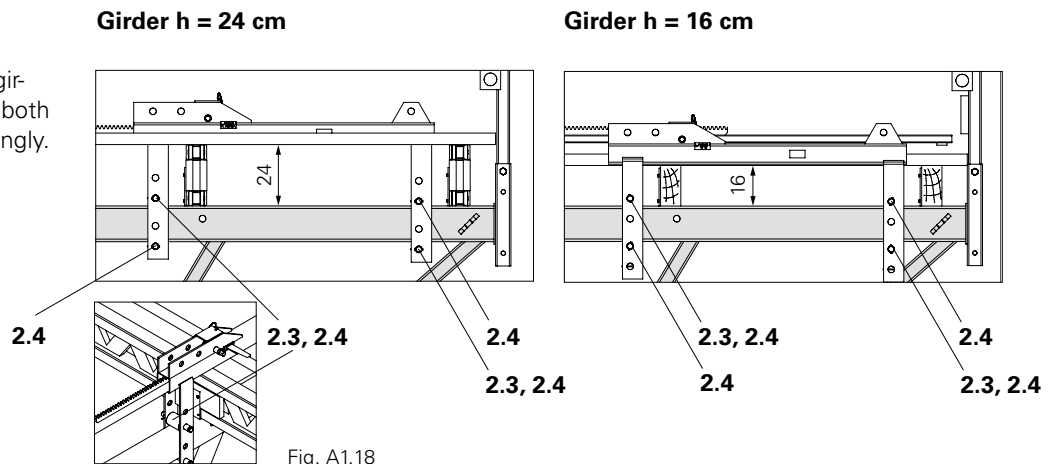

Fig. A1.18
5. Depending on the height of the girders (24 cm or 16 cm), mark out both bolts (2.4) and roller (2.3) accordingly. (Fig. A1.18)